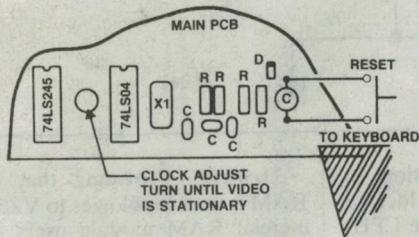

Figure 3. 74LS04 on VZ200.
(See Figure 3 for the VCZ200 location. In the VZ300, the variable capacitor is located inside an rf shield to the right of the CPU. In both cases, a hole has been punched in the rf shield for access.)
4. RESET. Locate the 10µF capacitor on the 74LS04 (see Figure 3; this is the same IC as is used for the clock signal). Connect a pushbutton across this capacitor. When the button is depressed, the capacitor will discharge, causing a reset signal on the CPU. This has the advantage of resetting without